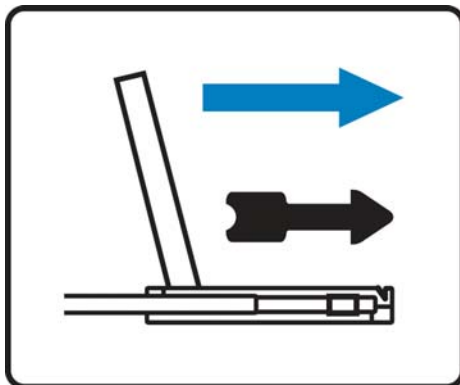

Figure 10
- Pull and hold the black arrow button on either side of the LCD keyboard drawer to unlock. (shown in **Figure 10**).